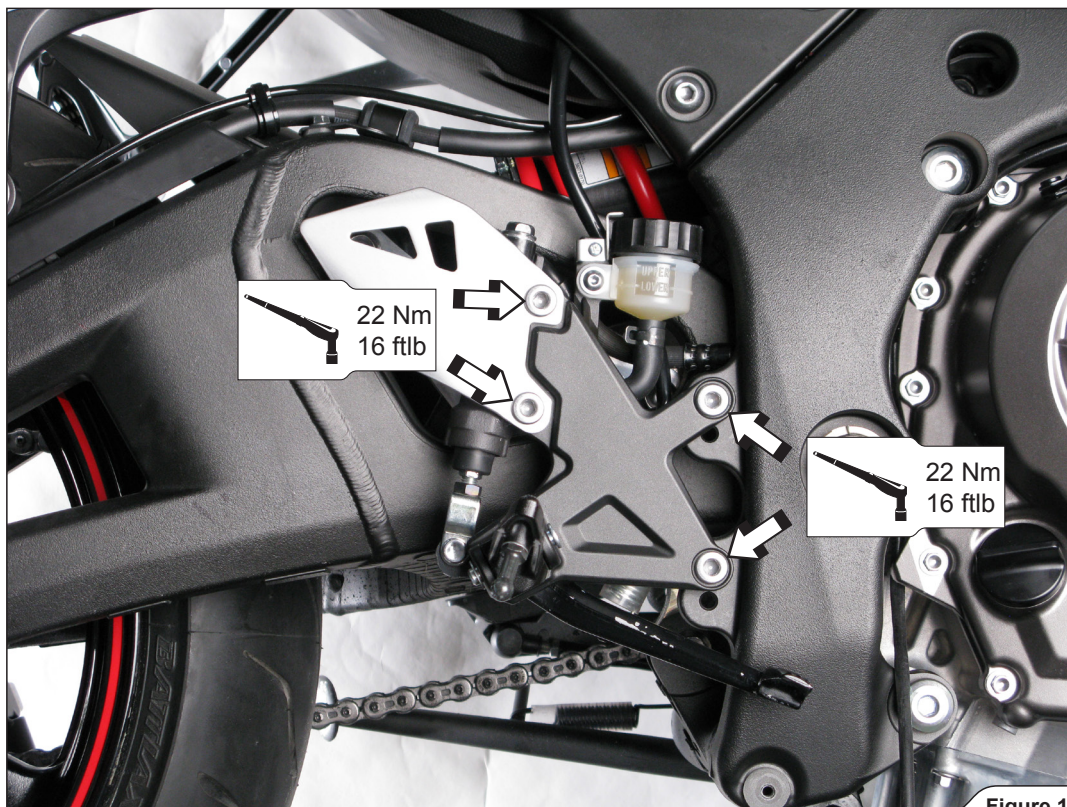

Figure 13
1. Assemble the foot peg and foot guard back onto the frame (Figure 13).